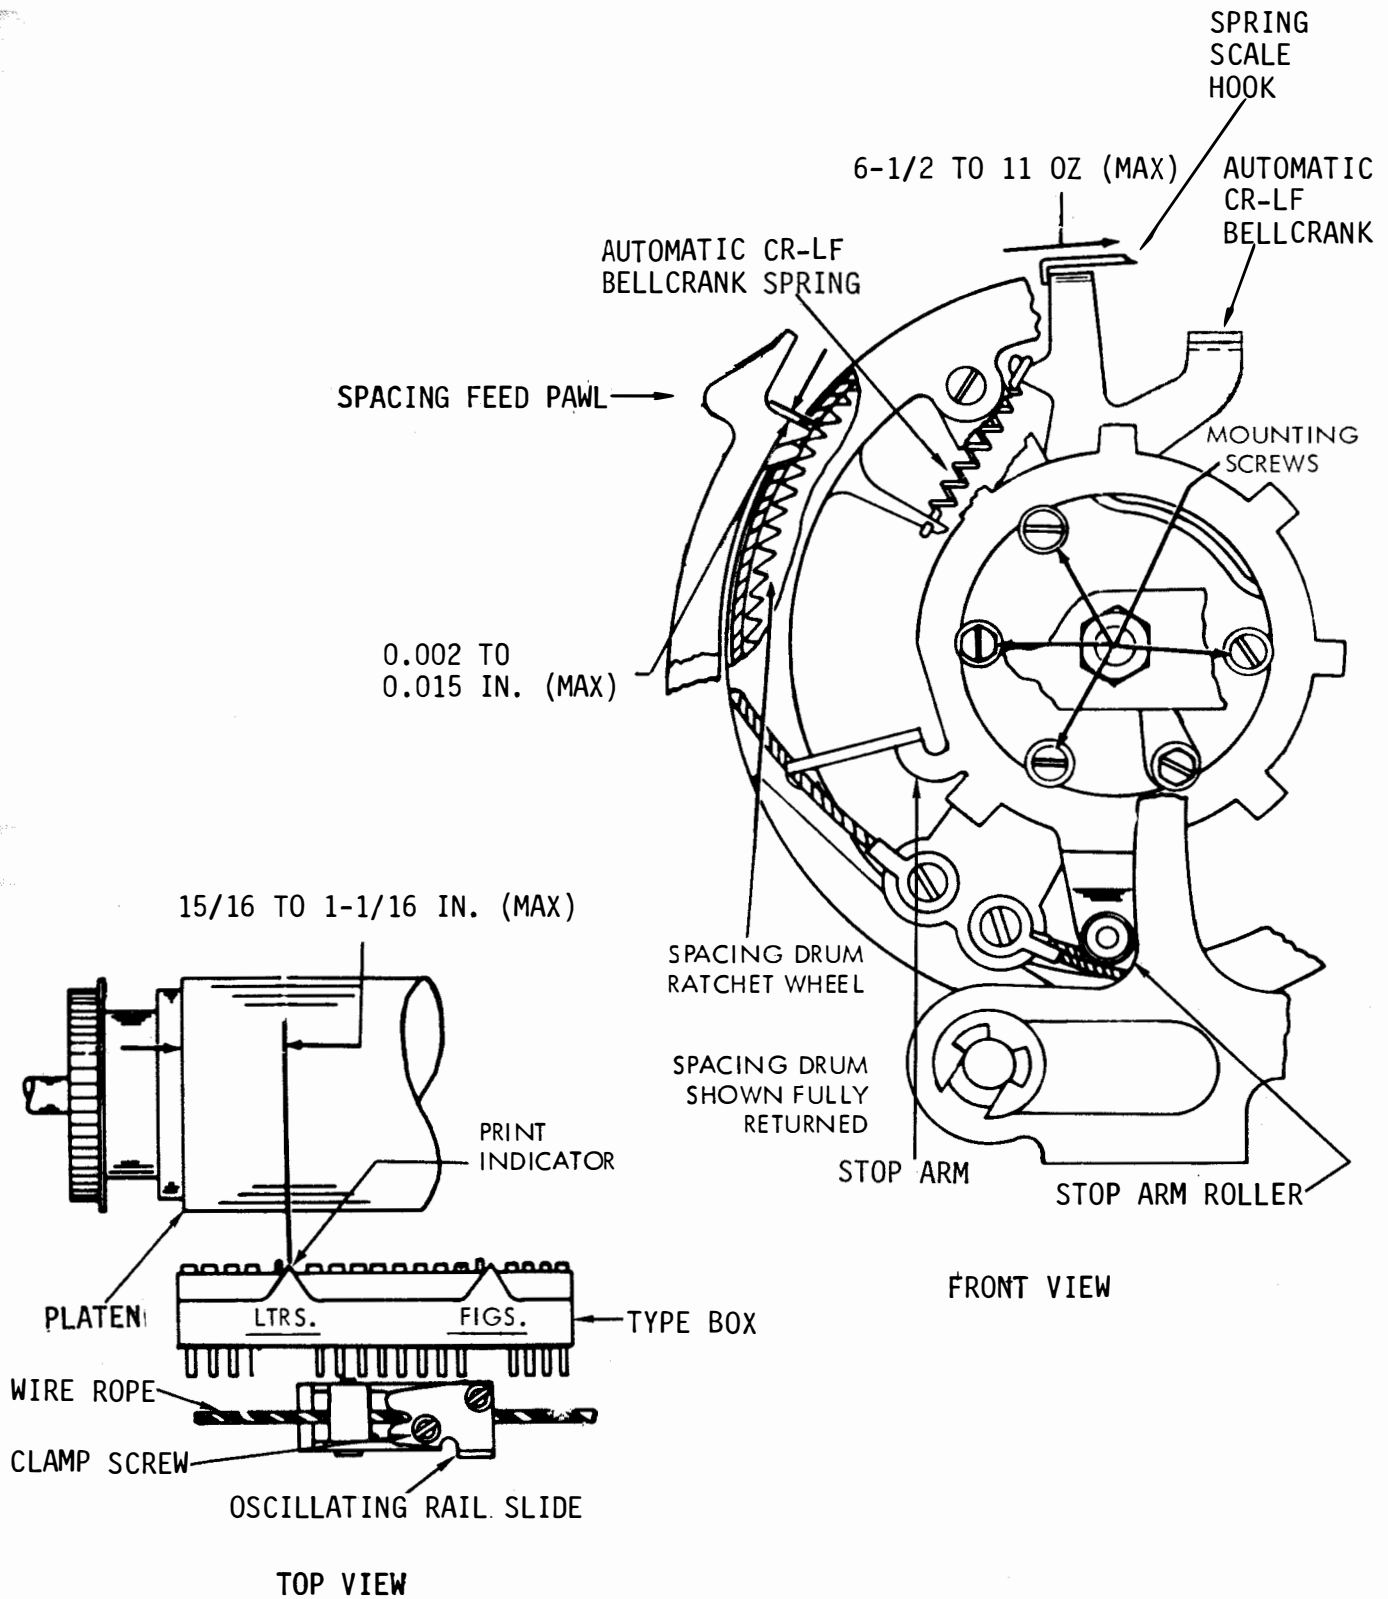

Figure 6-541. Automatic Carriage Return/Line-Feed Bellcrank Spring
(4) Automatic Carriage Return/Line-Feed Bellcrank Spring. Adjust as follows:
- (a) Refer to Figure 6-541.
(5) Left Margin. Adjust as follows:
(a) Refer to Figure 6-541.